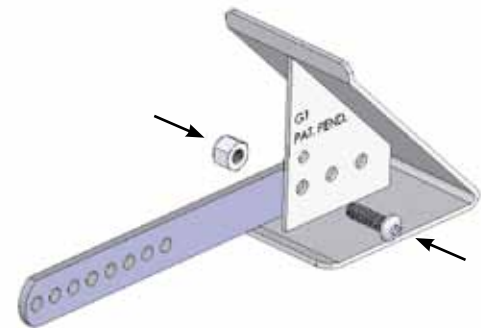

Figure 2
- 2) Using the same nut and bolt, install the extra single arm onto that same wedge. The bolt should go through the end of the arm with the single hole. *See Figure 2.*